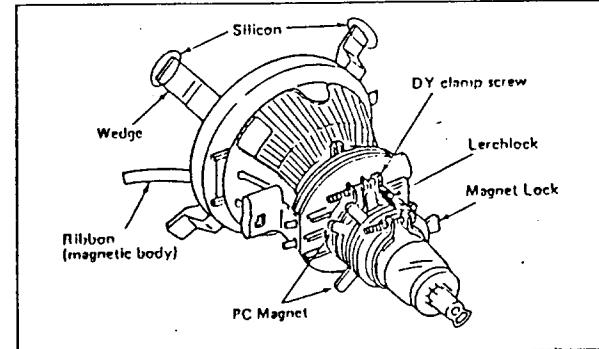

Fig. 10
- Coat the PC magnet with Lerchlock (Fig. 10)
- Coat silicon on the three wedges. (Fig. 10)